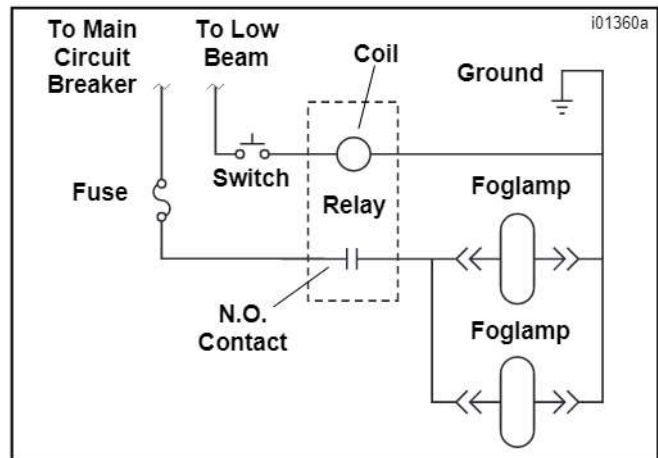
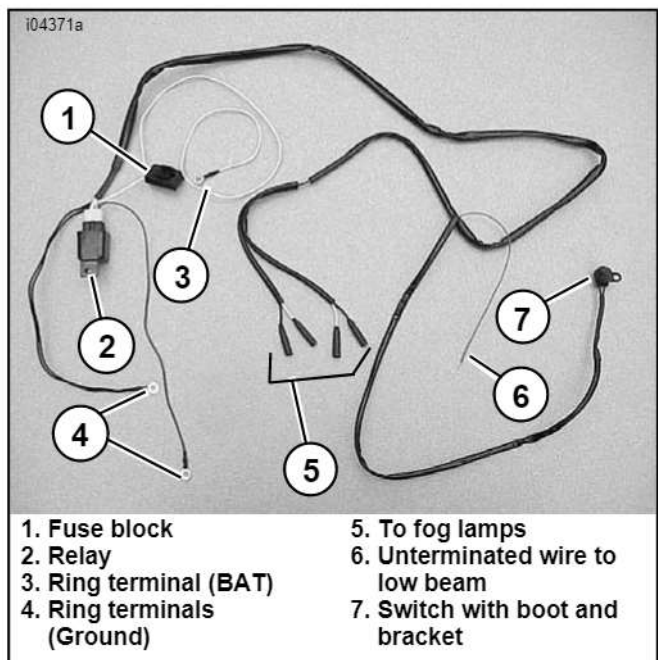

Figure 1. Fog Lamp Schematic
Figure 2. Fog Lamp Wiring Harness
3. **All models:** See Figure 1 for the electrical schematic and Figure 2 for wiring harness connections.